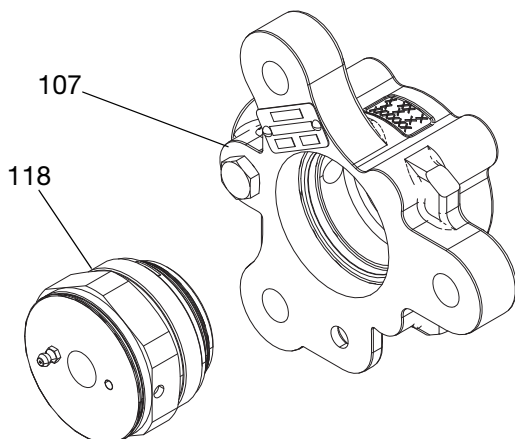

FIG. 24
7. With the outlet housing (107) mounted securely in a vice, install the throat retainer O-ring (120) onto the throat retainer (118). Place the retainer into the outlet housing (107).
8. Apply anti-seize to the threads on the throat retainer (119) and thread it into the outlet housing (107). When fully threaded together torque the throat retainer to 200 ft-lbs. (271 N•m). See FIG. 24.